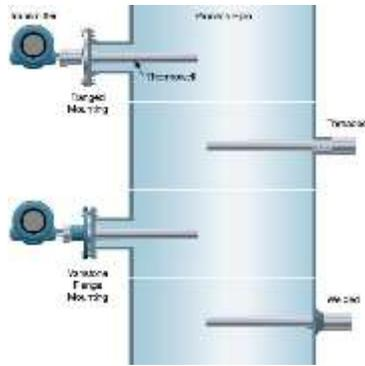

Figure 1
1. **Connection Type** — Thermowells are classified according to their connection to the process. The most common types are threaded, socket weld, and flanged. Each of these has a stem or shank that extends into the process that may be straight with constant diameter, tapered all the way from entry point to the tip, partially tapered, or stepped (see Figure 1).